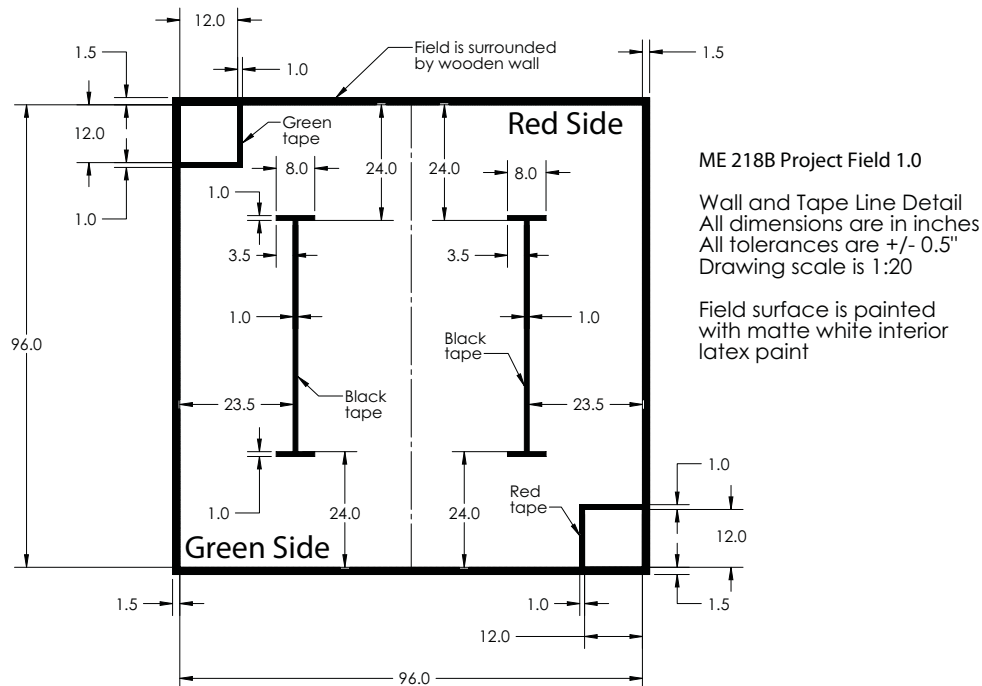

Fig. 1 Top View of Playing Field
- At the beginning of each game, the robots will be placed in the 12" square regions shown in Fig.1. Orientation is free, but the entire robot must fit within the 12" square.